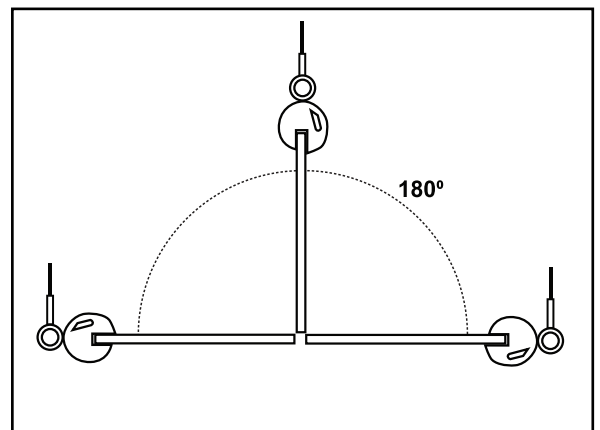

FIGURE 2
- A vertical turn/lift clamp is a vertical lifting clamp specifically intended to turn over a single plate through a ninety degree (90°) arc from horizontal to vertical to horizontal in a 180° arc. During the turning operation the edge of the plate opposite to the clamp should always be in contact with something, such as a factory floor. The load to be turned should be less than one half the rated capacity of the clamp. See Figure 2.